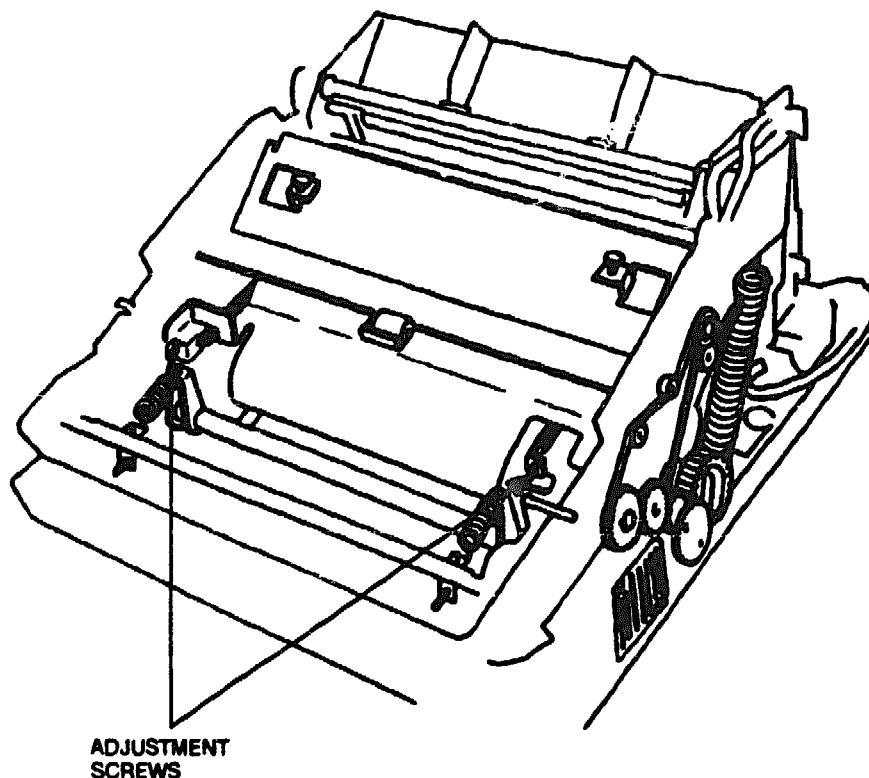

Figure 4-25 Tension Stay Friction Adjustment Screws
4. If the measured pull-out force is larger than 600 g, use a flat-tip screwdriver to turn the screw on the right and left tension stays (see Figure 4-25) clockwise. If the pull-out force is smaller than 500 g, turn the screws counterclockwise.